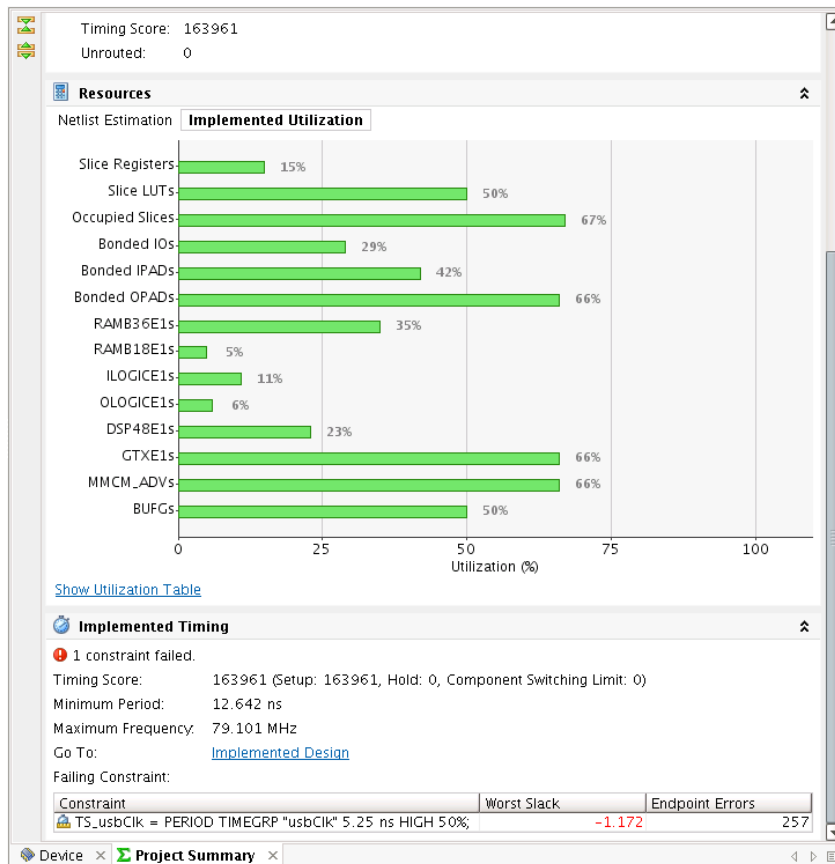

Figure 8: Project Summary View
- 1-3-2.** When the implementation results finish loading, a summary is available from the Project Summary view. Click the **Project Summary** tab and scroll to the bottom to see the Implemented Timing summary (Figure 8). Note the timing score is not “0”, indicating that the design has timing failures. The summary lists the failing timing constraint also.